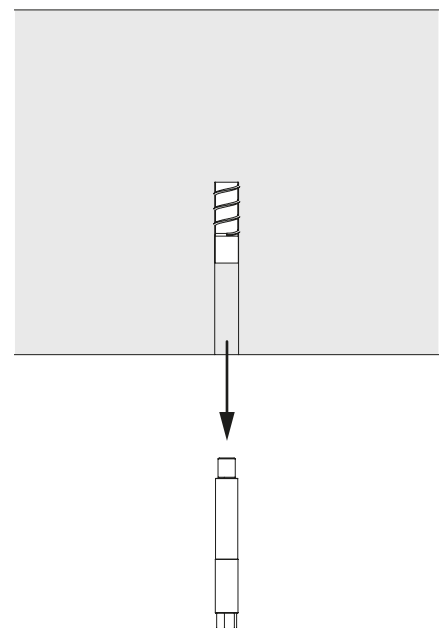

Fig. A5.19
1. Unscrew Connection Bolt M16/ M24x50 (51) after use. (Fig. A5.19)